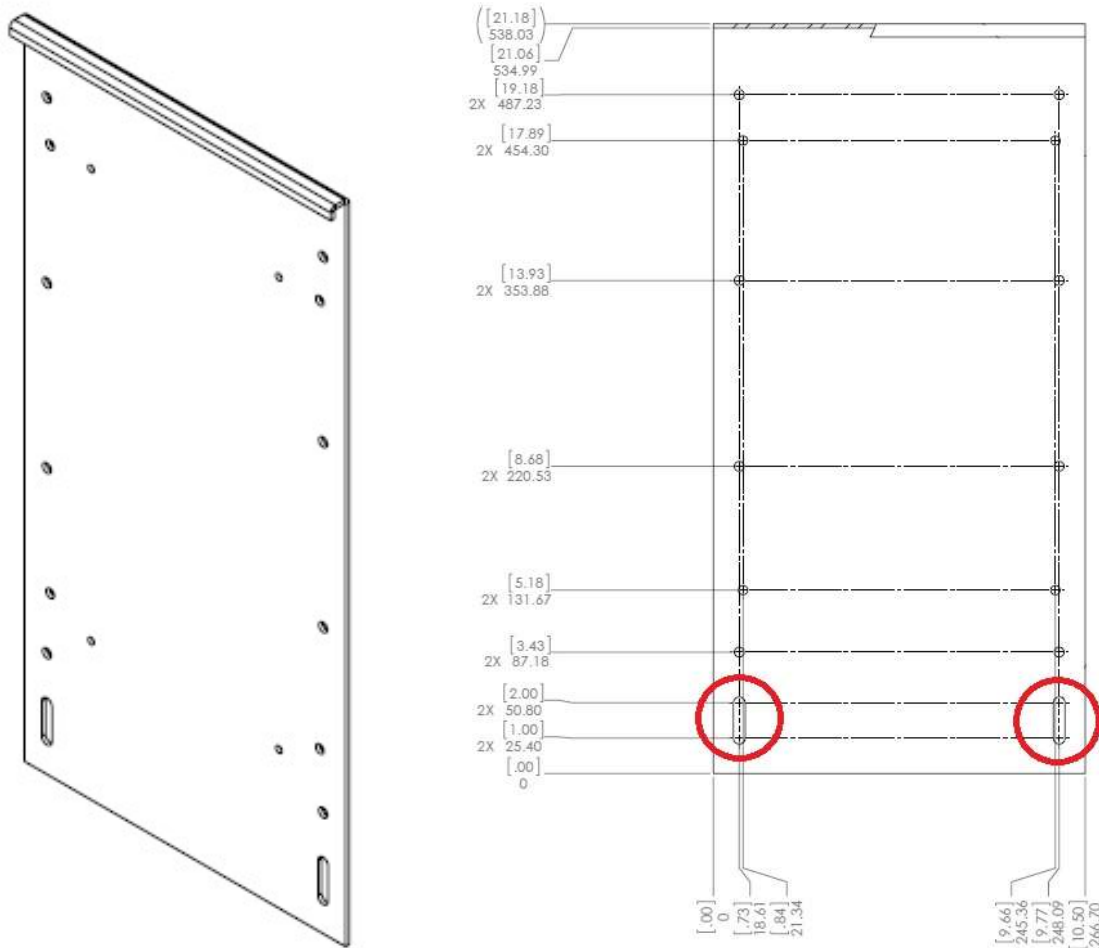

FIGURE 6: AID MOUNTING BRACKET (INSTALLATION HOLES ARE HIGHLIGHTED)
1. AID is shipped already mounted on the Alencon Bracket (see Figure 6).